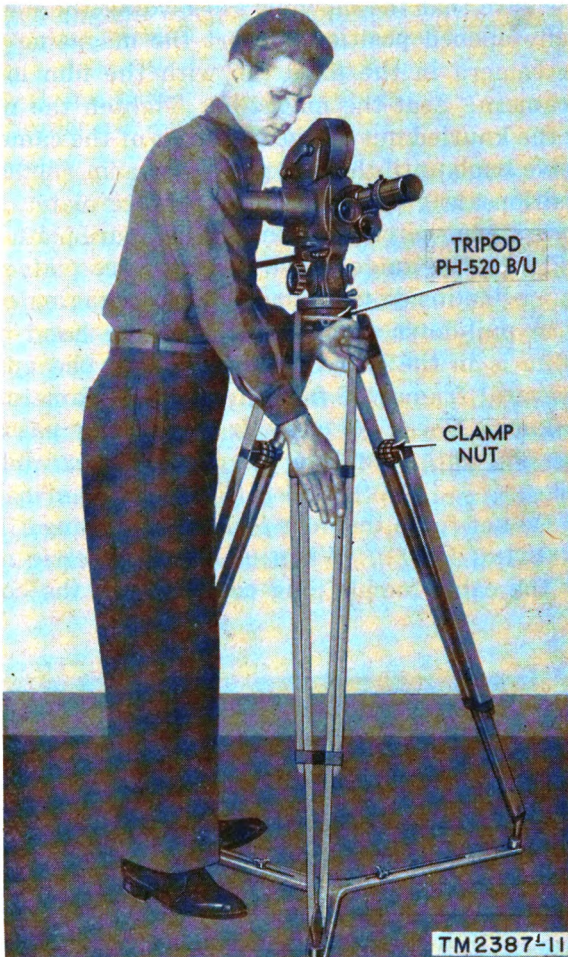

Figure 11. Setting up camera and locking tripod.
a. **SETTING UP TRIPOD.** Choose an approximate location for the camera, considering distance from the scene, shooting angles, lens coverage, and light conditions; place all carrying cases near the camera location. Remove the tripod from its carrying case. Do not allow the tripod head to hit or rest on the ground or to collide with any nearby objects. Position the tripod so that one of the legs faces the subject; this permits the operator to stand between the other legs. Place the tripod legs in a spider or triangle, if available, when setting up on hard surfaces such as hardwood floors, cement or tile, or on soft surfaces where tripod spurs cannot hold. Set up one leg at a time and adjust to tentative height. Unscrew the panning handle from its socket under the base casting. Insert the handle into the socket under the adapter plate and screw it firmly into place. Check the levels on the tripod head and tighten the knurled clamping nuts on the legs (fig. 11). Recheck the levels after rotating the tripod head 90°.